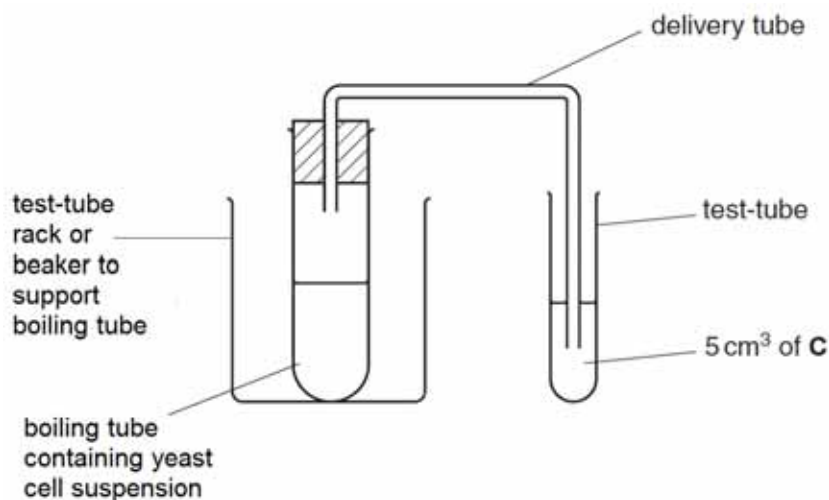

Fig.1.2
You are required to investigate the effect of glucose and sucrose on the release of carbon dioxide from a yeast cell suspension using apparatus set up as in Fig.1.2, and the tubes prepared in **stage 1**.
- 9** Put the bung containing the delivery tube into tube **B1**, as shown in Fig. 1.2. Ensure that the seal is airtight.
In a separate study, a student used a modified version of the apparatus shown in Fig.1.2 to investigate the effect of temperature on the release of carbon dioxide from a yeast cell suspension. The results of the study are presented in Table 1.1.